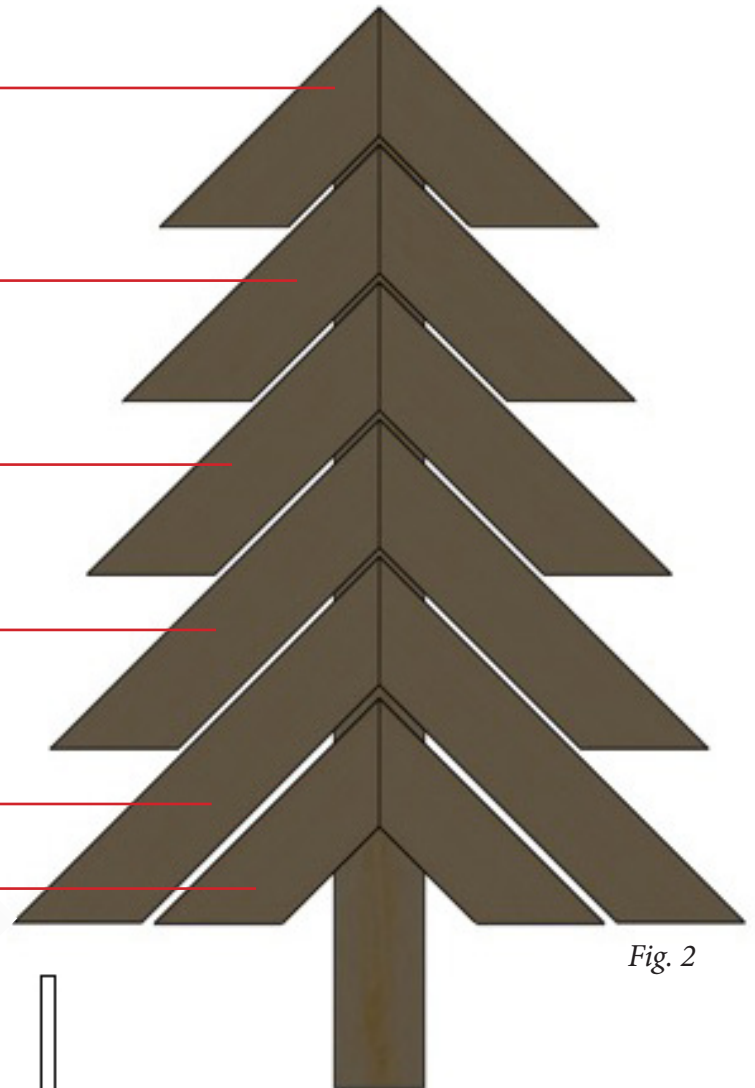

Fig. 2
- Abutt the angled ends of each pair of branches and position them on the tree trunk as seen in Fig 2.
NOTE: Placing the branches exactly as shown in Fig. 2 will result in small spaces between each set of branches and the amount of bare trunk shown at the bottom of the tree. If more or less space (or no space) is desired between sets of branches, or if more or less bare trunk at the bottom is desired, simply place the sets of set of branches either closer together or further apart.